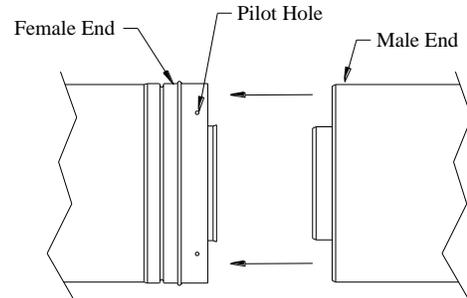
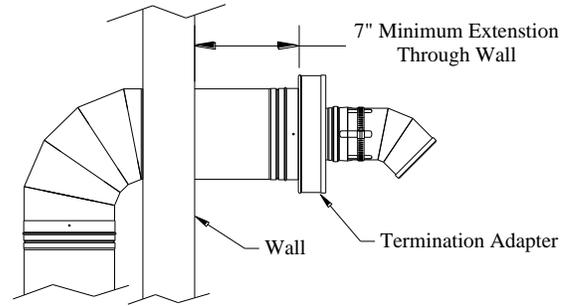

Fig 6. (DT-M Joint Assembly)
Fig 7. (Minimum Extension Through Wall)
- a. The female end of each vent segment has a red seal in the inner vent. The female end should always point away from the appliance (See Fig 6).
11. Install Termination Adapter (VT). The VT can be recognized by the presence of an extra housing around the outlet end of the adapter which provides a passage way for intake air. This intake air passage way must remain free from obstruction at all times.
- a. Connect the inlet end of the VT to the vent extending through the roof or wall. Join parts using the standard DT-M joint connection method. Note: For Horizontal installation, the VT must be at least 7" from the wall (See Fig 7), and at least 12" from the Roof in vertical installations (Note: 24" or higher may be required in regions where a large amount of snow falls).